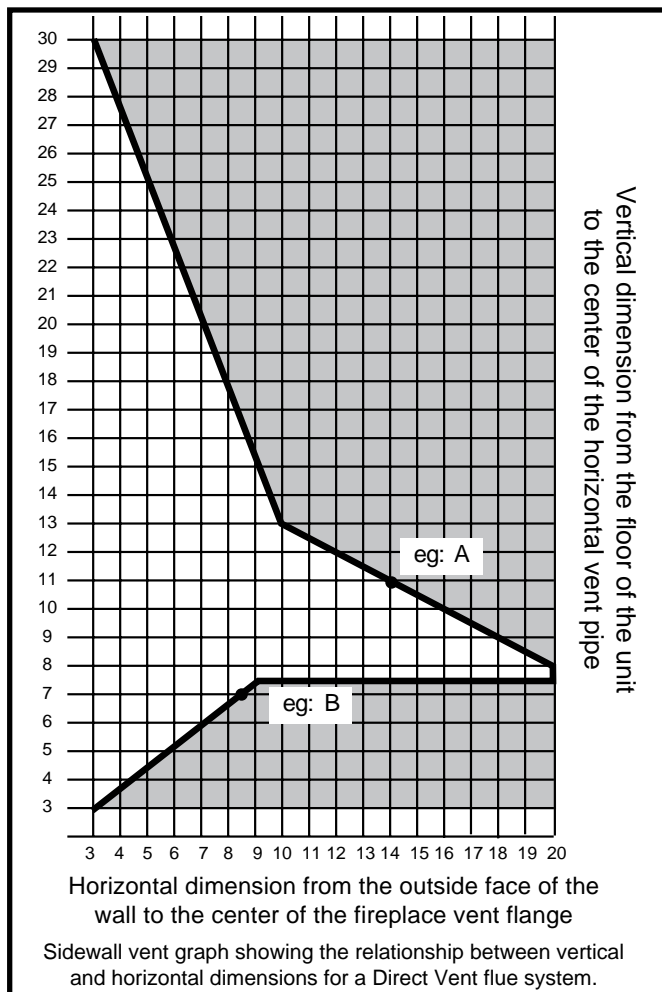

Fig. 12 Sidewall venting graph. (Dimensions in feet)
1. Determine the height of the center of the horizontal vent pipe exiting through the outer wall. Using this dimension on the Sidewall Vent Graph (Fig. 12) locate the point intersecting with slanted graph line.